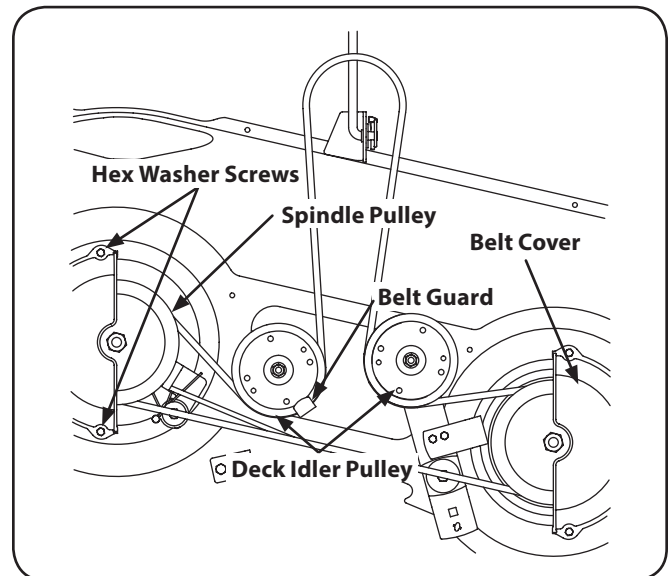

Figure 7-7
2. Remove the belt covers by removing the hex washer screws that fasten them to the deck. See Figure 7-7.
4. Carefully remove the deck belt from around the two spindle pulleys and the two deck idler pulleys. See Figure 7-7.
5. To place the new belt, begin by routing the belt around the two outer spindle pulleys as shown in Figure 7-7.
6. Then route the belt around the two deck idler pulleys as shown in Figure 7-7.